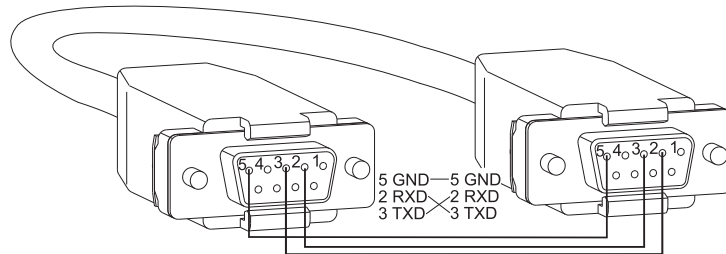

FIG. 5 RS-232 null modem pin diagram, no hardware flow control
1. Use a null modem cable that matches the pin diagram in FIG. 5 for RS-232 without hardware flow control. AMX equipment requires pins 2, 3, and 5 only.